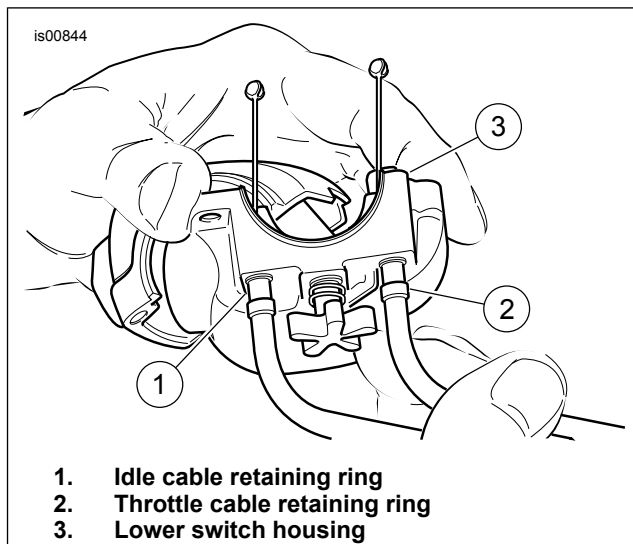

Figure 10. Install Cables to Lower Switch Housing
2. See Figure 10. Push throttle cable housing and retaining ring into switch housing larger hole, located in front of tension adjuster screw.